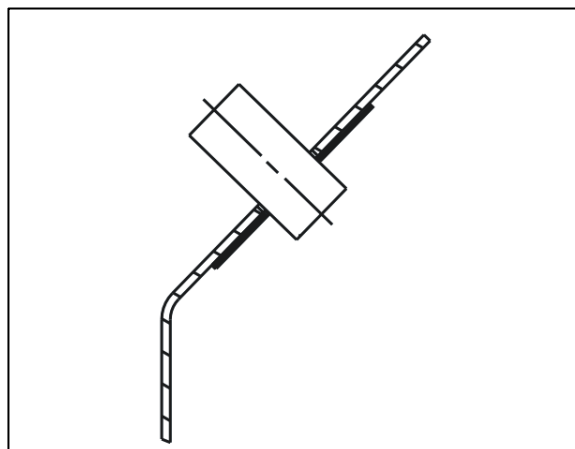

FIGURE 20
28. Install the flange assembly inside the toilet moulding (Figure 20).